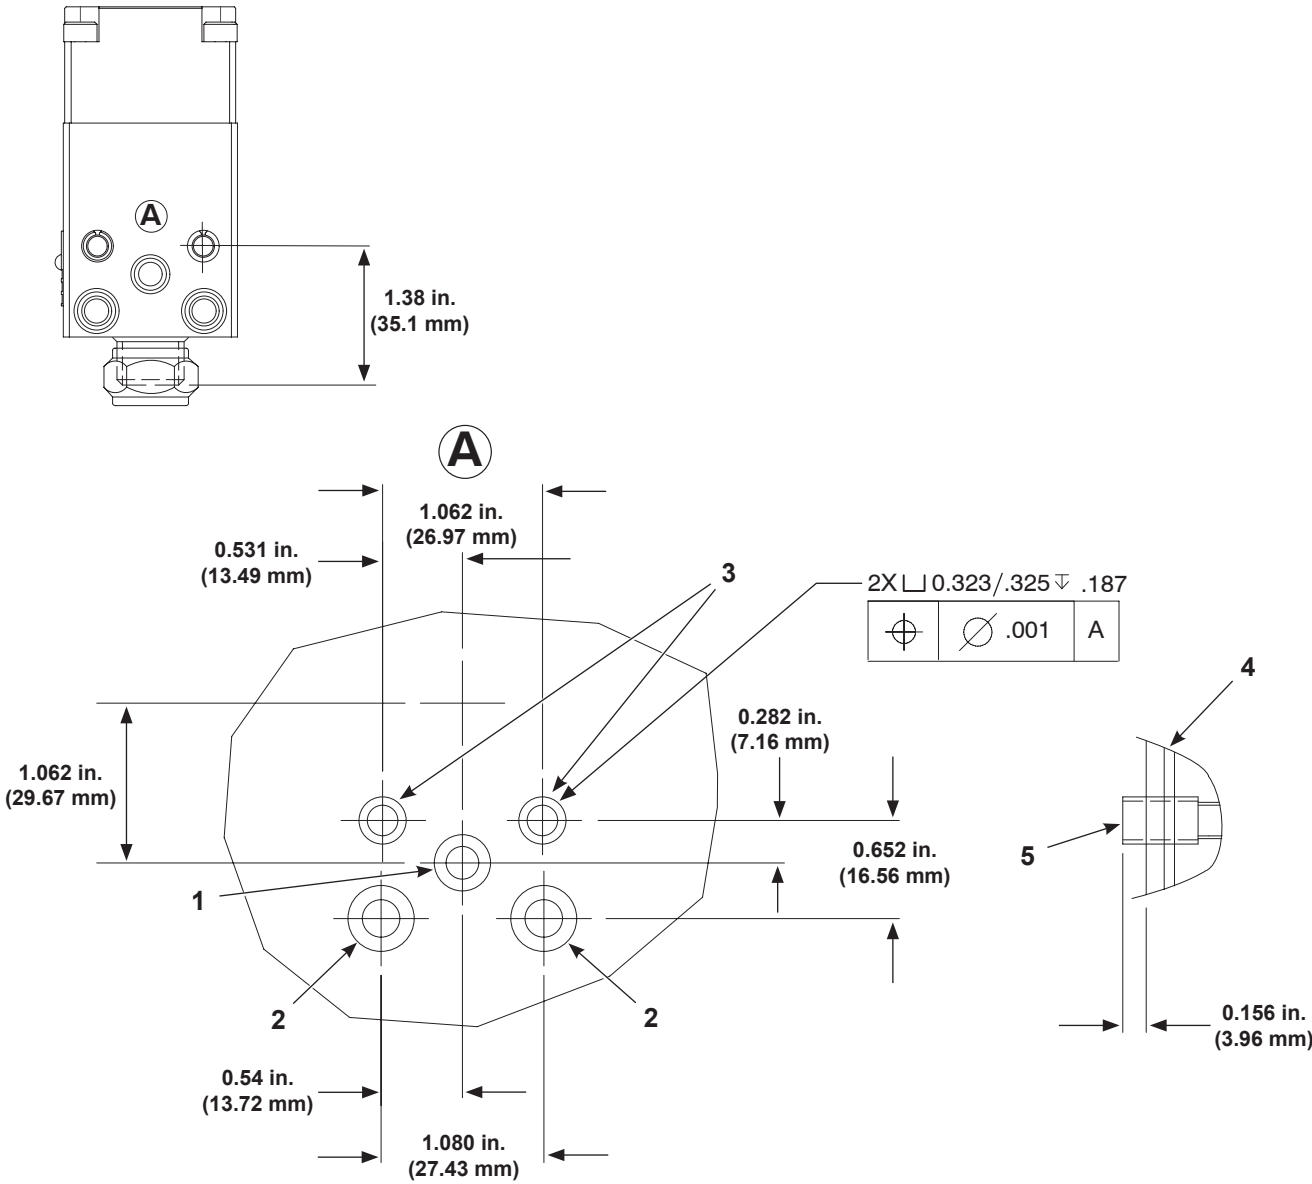

Figure 4 Manifold-Mount Dimensions
See Figure 4 for specifications when mounting the dispensing valve on a manifold. In addition to drilling the mounting holes (3), drill holes for the material inlet (1) and the air inlet (2).